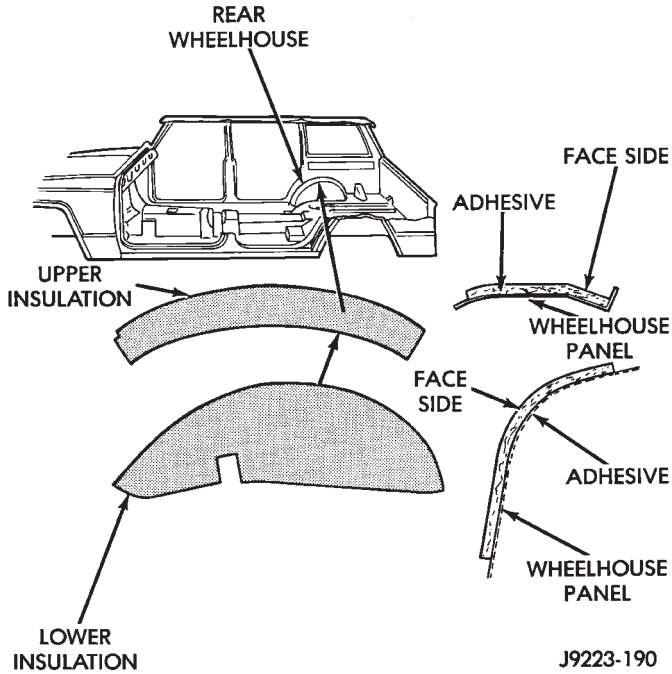

Fig. 80 Wheelhouse Insulation
(1) Remove the liftgate latch striker and scuff plate.
(2) Drill-out the retaining rivet heads and remove the cargo tie-down footman loops from the carpet.
(3) As necessary, remove the trim panels and moldings.
(4) Remove the all other interfering components.
(5) Remove the carpet and mat from the floor panel.
(6) If necessary, remove the insulation from the wheelhouse (Fig. 80).